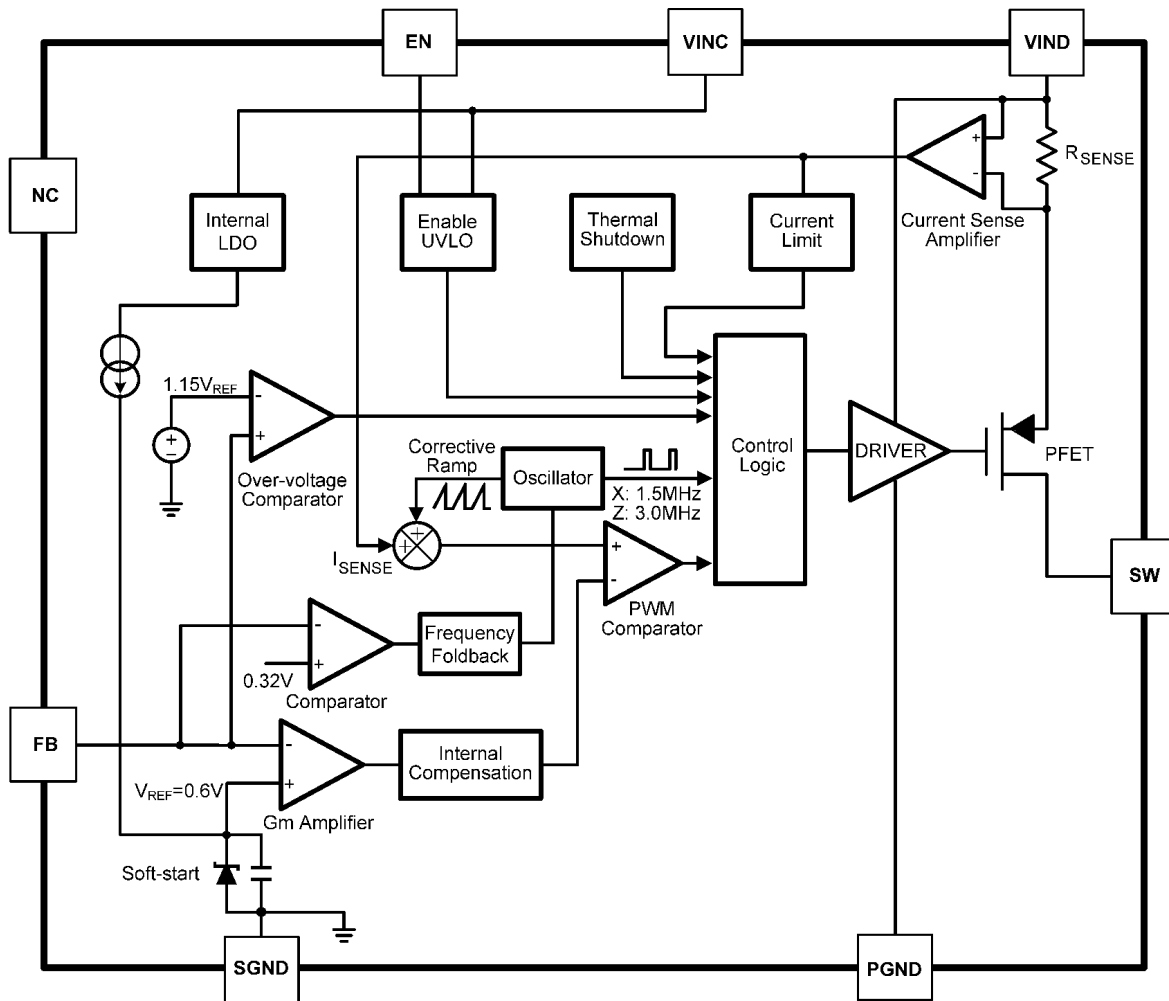
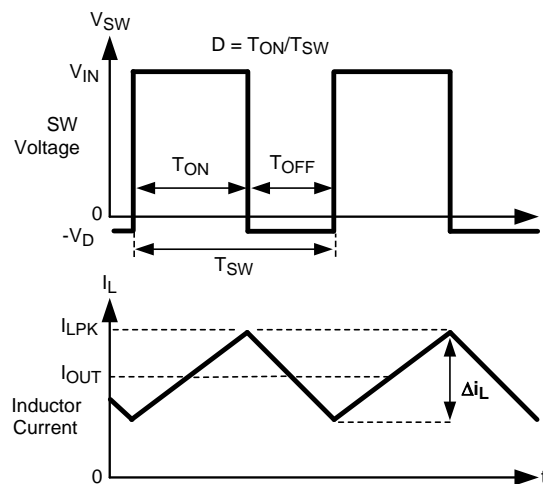

Figure 25. Simplified Block Diagram
Figure 26. SW Pin Voltage and Inductor Current Waveforms
The LM2833 is a constant frequency PWM buck regulator IC that delivers a 3.0A load current. The regulator is available in preset switching frequencies of 1.5MHz or 3.0MHz. This high frequency allows the LM2833 to operate with small surface mount capacitors and inductors, resulting in a DC/DC converter that requires a minimum amount of board space. The LM2833 is internally compensated, therefore it is simple to use and requires few external components. The LM2833 uses peak current-mode control to regulate the output voltage. The following description of operation of the LM2833 will refer to the Typical Application Circuit, to the waveforms in Figure 26 and simplified block diagram in Figure 25. The LM2833 supplies a regulated output voltage by switching the internal PMOS power switch at a constant frequency and variable duty cycle. A switching cycle begins at the falling edge of the reset pulse generated by the internal oscillator. When this pulse goes low, the output control logic turns on the internal PMOS power switch. During this on-time, the SW pin voltage (V_{SW}) swings up to approximately V_{IN} , and the inductor current (I_L) increases with a linear slope. I_L is measured by the current sense amplifier, which generates an output proportional to the switch current. The sense signal is summed with the regulator's corrective ramp and compared to the error amplifier's output, which is proportional to the difference between the feedback voltage and V_{REF} . When the PWM comparator output goes high, the internal power switch turns off until the next switching cycle begins. During the switch off-time, the inductor current discharges through the catch diode D1, which forces the SW pin to swing below ground by the forward voltage (V_D) of the catch diode. The regulator loop adjusts the duty cycle (D) to maintain a constant output voltage.
The inductor value determines the output ripple current (Δi_L , as defined in Figure 26). Lower inductor values decrease the size of the inductor, but increase the output ripple current. An increase in the inductor value will decrease the output ripple current. In general, the ratio of ripple current to the output current is optimized when it is set between 0.2 and 0.4 for output currents above 2A. This ratio r is defined as: